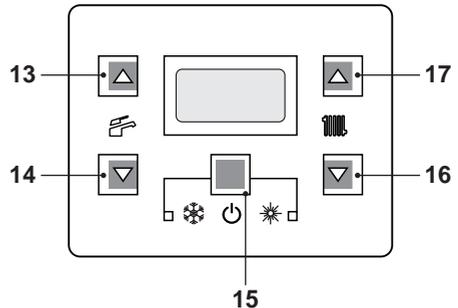
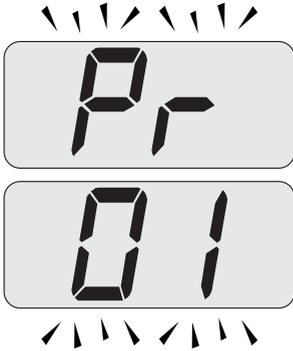
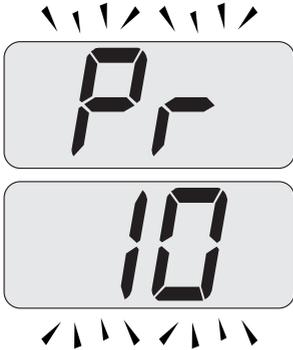

Fig. 7.31
Fig. 7.32
Fig. 7.33
- Enter the "programming mode" by pressing keys 15 - 16 - 17 (Fig. 7.31) for 10 seconds at the same time until the letters **Pr** that alternate with code **01** are displayed on the LCD display, indicating that "parameter 01"(Fig. 7.32) has been activated.
- Scroll the various parameters using keys 16 or 17 until the letters **Pr** that alternate with code **10** are displayed on the LCD display, indicating that "parameter 10"(Fig. 7.33) has been activated.
- Press keys 15 and 17 (Fig. 7.31) at the same time until the value of parameter 10 (30=180 seconds) is displayed on the LCD display (Fig. 7.34).
- By pressing key 15 (Fig. 7.31) confirmation of the inserted value is obtained.
- Press keys 15 and 16 (Fig. 7.31) at the same time to exit without changing the value (return to the parameters list Fig. 7.33)
- Press keys 15 - 16 - 17 (Fig. 7.31) at the same time for 10 seconds to exit the "programming mode".